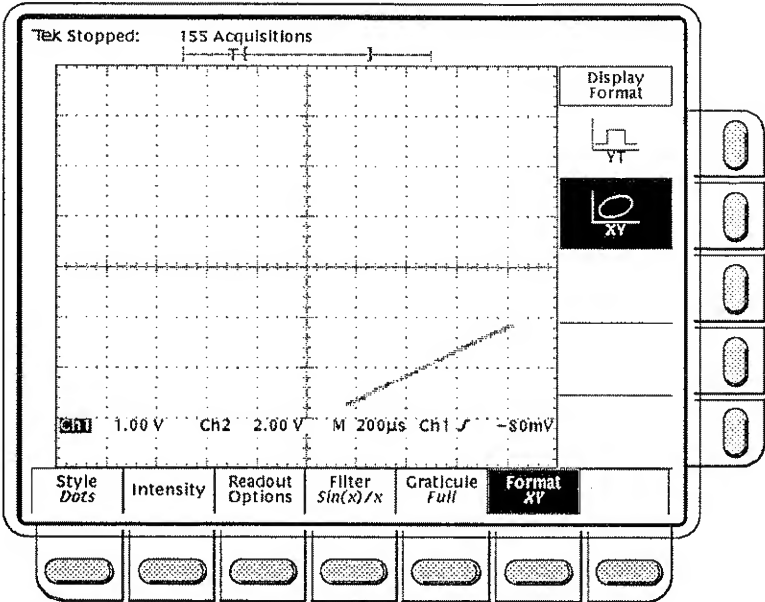

Figure 3-14: Display Menu — Format Selected
- ☐ **Step 1:** You can set the display axis format with the main menu **Format** item (Figure 3-14).